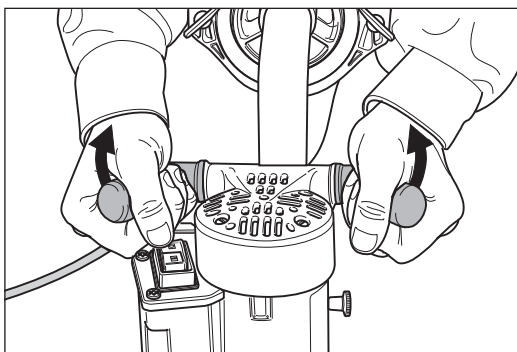

Fig. 7 Tilt the machine backwards slightly before starting and switching off the machine.
- **Always** tip the machine backwards slightly (Fig. 7) before starting the machine so that the sanding disc is raised off the floor!
- 1 Tip the machine backwards slightly (Fig. 7).
Always tip the machine backwards slightly (Fig. 7) before switching off the machine so that the sanding disc is raised off the floor!